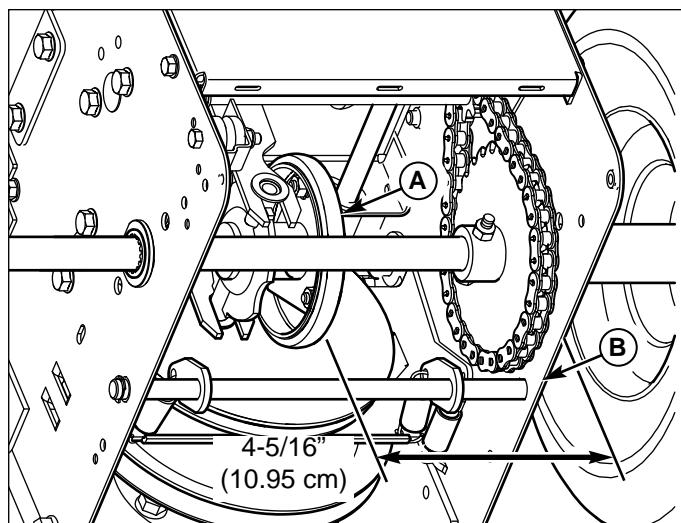
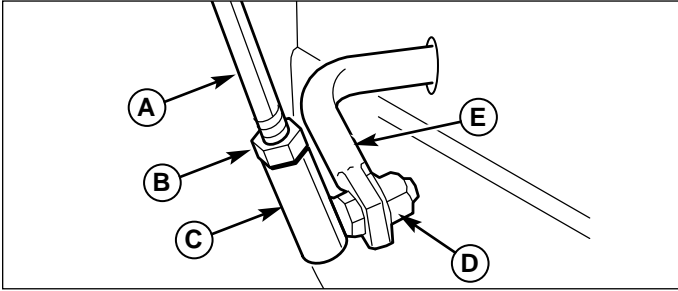

Figure 7. Friction Disc Measurement
Figure 8. Speed Selector Linkage
7. Note the position of the friction wheel (A, Figure 7). The correct distance from the right side of the friction wheel to the outside of the frame is 4-5/16" (10.95 cm). If the friction wheel is not in the correct position, adjust as follows.
8. Loosen the jam nut (B, Figure 8).
9. Remove locknut (D).
10. Move the friction wheel (A, Figure 7) to the correct distance 4-5/16" (10.95 cm).
11. Turn the ball joint (C, Figure 8) until it is aligned with the mounting hole in the shifter rod (E). When aligned, attach the ball joint (C) to the shifter rod (E) and tighten the jam nut (B) and locknut (D).